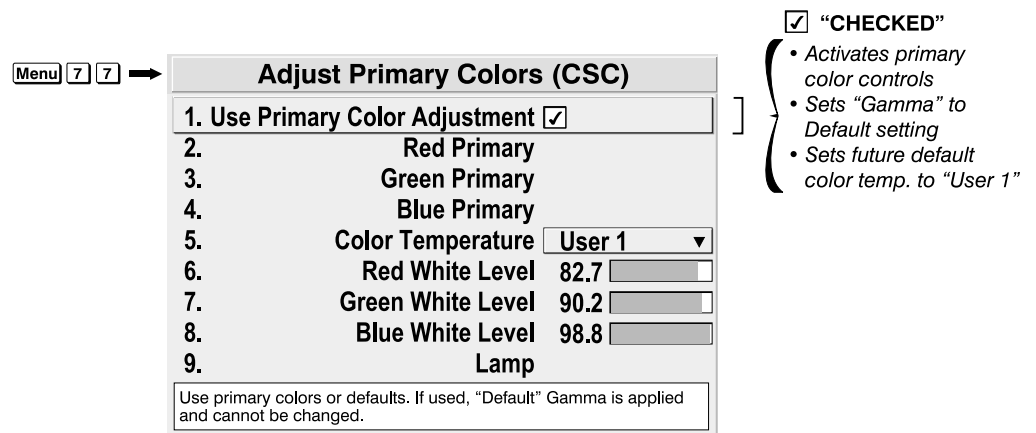

Figure 3.36. Enabling Primary Color Adjustment
- 2a) **ENABLE PRIMARY COLOR ADJUSTMENT:** In the *Adjust Primary Color (CSC)* menu (Menu 7 7), enter a checkmark in the Use Primary Color Adjustment checkbox so that primary color controls can be adjusted and applied to the image. See Figure 3.36.